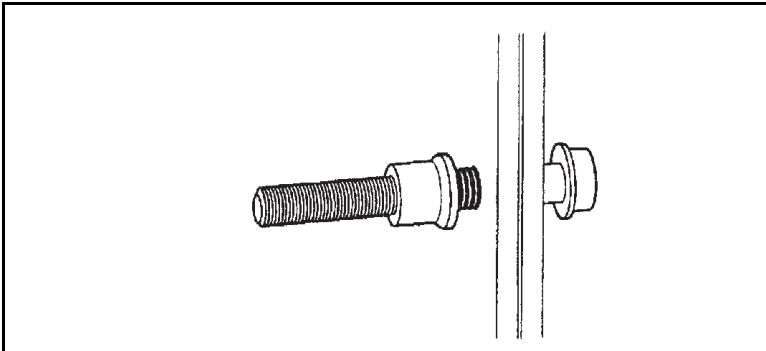

Figure 2.9 Place Collar Over Fastener Pintail
2. Place the collar over the fastener pintail (See Figure 2.9)